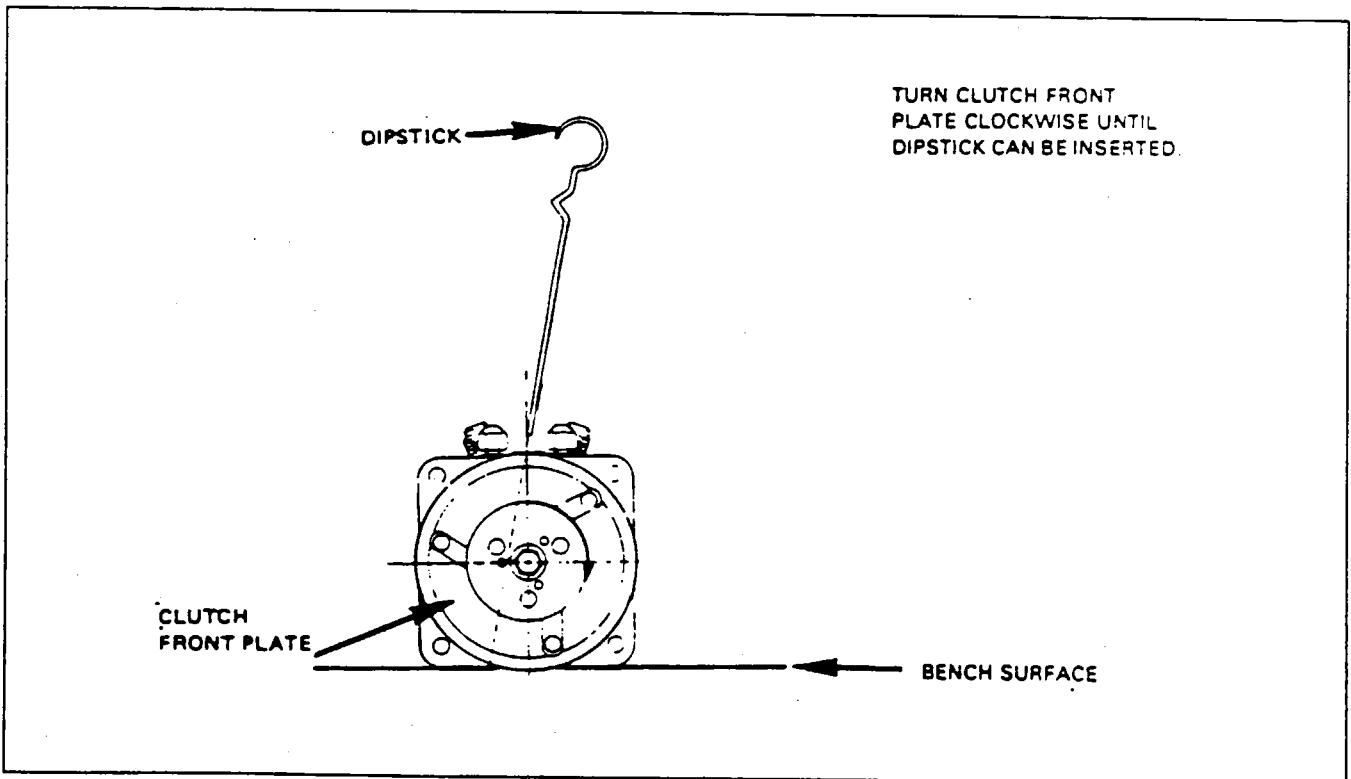

Figure 21-28. Rotation of Clutch Front Plate (Sankyo Compressor Oil Check)
7. Rotate the clutch front plate clockwise by approximately 110°. (Refer to Figure 21-28.)